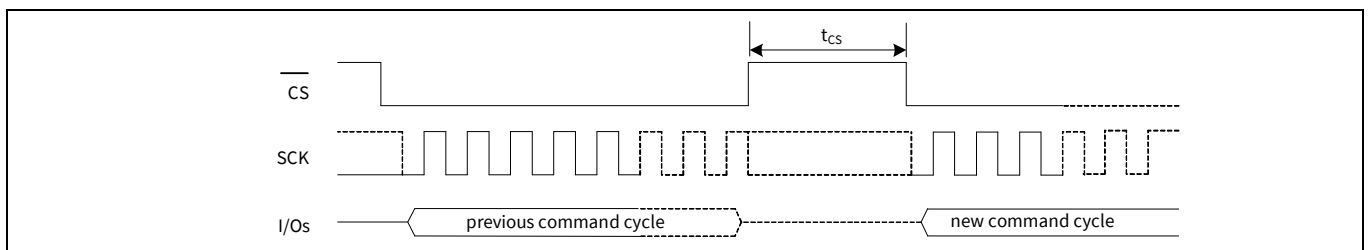

Figure 116 Chip deselect (\overline{CS} HIGH) - t_{CS} timing
21. t_{CS} is the minimum chip deselect ($\overline{\text{CS}}$ HIGH) time before the new command cycle starts in a specific SPI mode (SPI, DPI or QPI). This parameter ensures that previous operation is successfully completed before the host starts a new command cycle, see **Figure 116**.
21. t_{CS} is the minimum chip deselect (\overline{CS} HIGH) time before the new command cycle starts in a specific SPI mode (SPI, DPI or QPI). This parameter ensures that previous operation is successfully completed before the host starts a new command cycle, see **Figure 116**.
26. t_{CS} is the minimum chip deselect (\overline{CS} HIGH) time before the new command cycle starts in a specific SPI mode (SPI or QPI). This parameter ensures that previous operation is successfully completed before the host starts a new command cycle, see **Figure 116**.
26. t_{CS} is the minimum chip deselect ($\overline{\text{CS}}$ HIGH) time before the new command cycle starts in a specific SPI mode (SPI or QPI). This parameter ensures that previous operation is successfully completed before the host starts a new command cycle, see **Figure 116**.